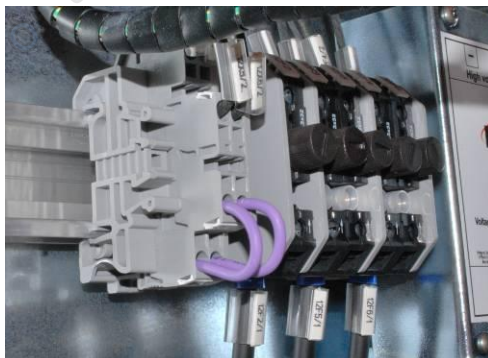

Figure 4.13 Wire bridges for internal auxiliary power supply (see also Figure 4.7-8)
**Note:** The inverter is delivered with wire bridges 12X5/3 - 12X5/4 and 12X6/4 - 12X6/3 connected (internal auxiliary power supply by default, see *Figure 4.13*).
**Note:** In case of external auxiliary supply, remove the bridges for internal supply 12X5/4 - 12X5/3 and 12X6/4 - 12X6/3 (see Figure 4.13).